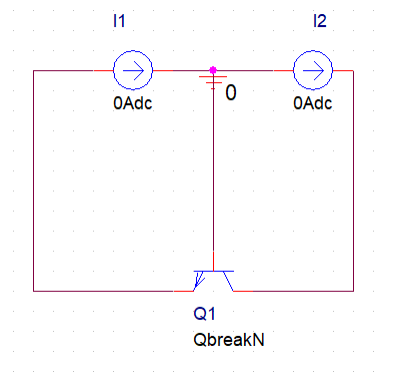
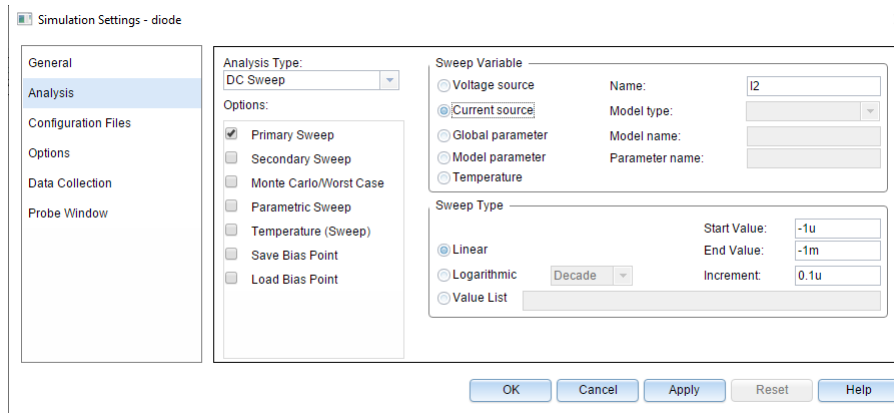

Figure 2: Forward Linear I-V Characteristics Circuit Set Up
Figure 3: Simulation Settings
3. Place DC current sources at the collector and emitter terminals, being sure to follow passive sign convention for the direction. Leave their values at 0A. See Figure 2.
5. Create a new simulation profile. Change the Analysis type to DC Sweep, set the sweep variable to Current Source and indicate the collector current source (I2 as shown in Figure 2). Set the start value to $-1\mu\text{A}$ and the end value to -1mA with an increment of $0.1\mu\text{A}$. See Figure 3.